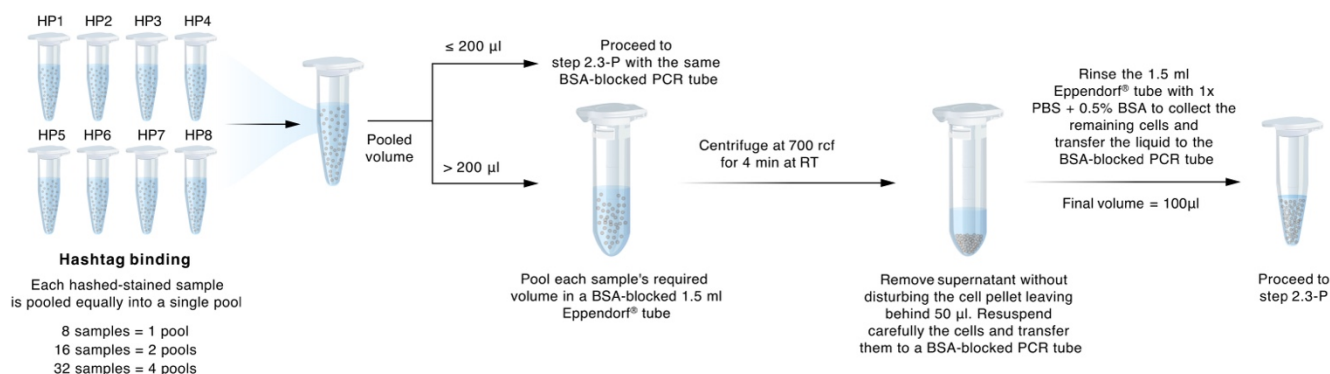

Figure 4. Hashtag-stained sample pooling scheme.
- O.** ☐ Combine individually hashtag-stained samples by equal cell number into the appropriate tube as follows (see Figure 4):